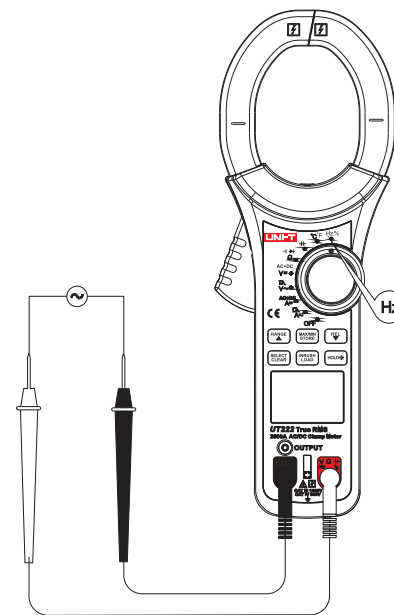

Figure 10
## 7. Frequency/duty ratio measurement (See Figure 10)
- Current measurement must be operated within  $0^{\circ}\text{C} \sim 40^{\circ}\text{C}$ , if positive reading is achieved after measuring DC current, the current direction will be from up to down (See Figure 10: the upward is panel and base cap is downward). Do not loosen trigger abruptly, since Hall component is sensitive in some extent to magnet, heat and mechanical stress, but also to the impact, which may cause short-time reading variation.
- Current measurement must be operated within 0°C ~ 40°C, if positive reading is achieved after measuring DC current, the current direction will be from up to down (See Figure 10: the upward is panel and base cap is downward). Do not loosen trigger abruptly, since Hall component is sensitive in some extent to magnet, heat and mechanical stress, but also to the impact, which may cause short-time reading variation.